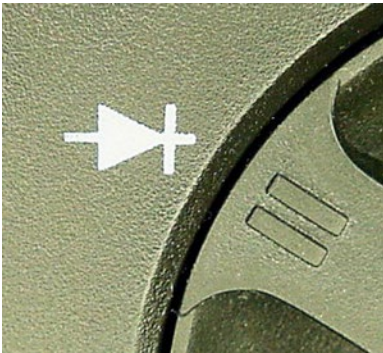

Figure 10-13. Diode setting on multimeter dial
3. Turn the multimeter dial to the diode symbol, which looks like an arrow crashing into a wall (see Figure 10-13). This indicates a component that allows electricity to flow in one direction (the arrow) but not the other direction (the wall). The diode setting is appropriate for LEDs, because the “D” in “LED” stands for diode.